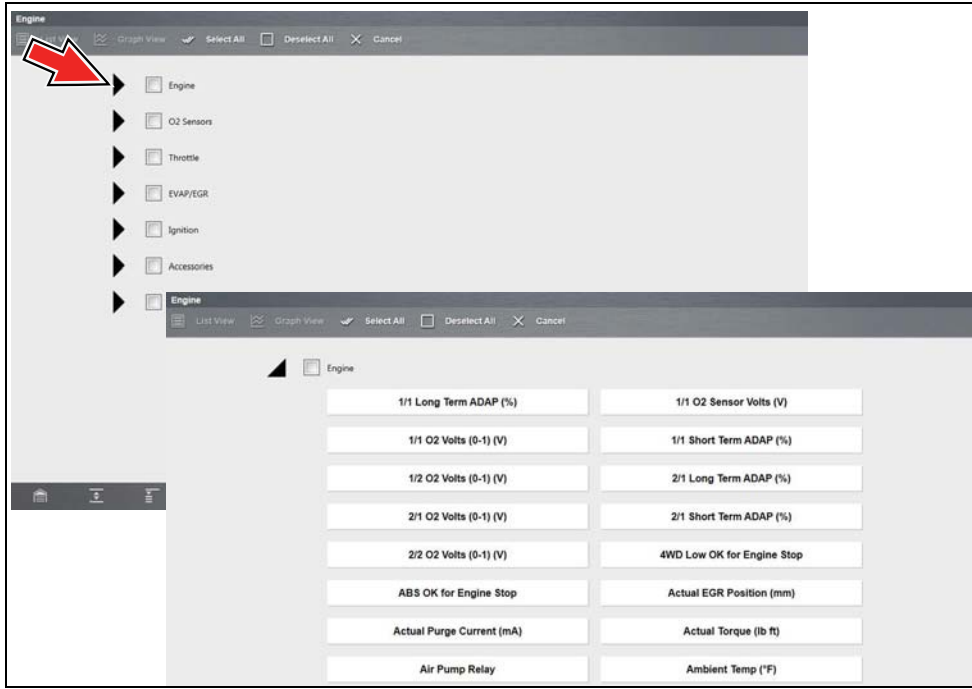

Figure 5-43
The custom data selection screen displays (upper image Figure 5-43).
2. Select the  icons to expand/collapse each PID category, and select the PIDs you want (lower image Figure 5-43), to create your custom list.